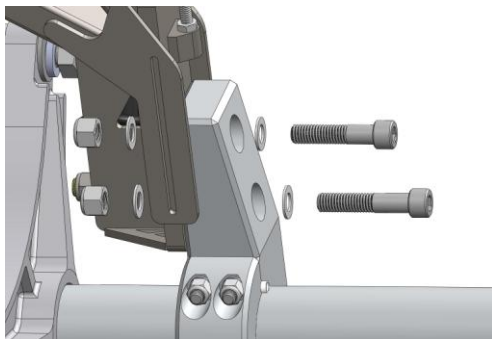

Figure 11
- d. Attach axle clamp to swing arm using the supplied hardware. Snug hardware just enough to still allow the clamp to slide against the swing arm as adjustments will be made later. Figure 11